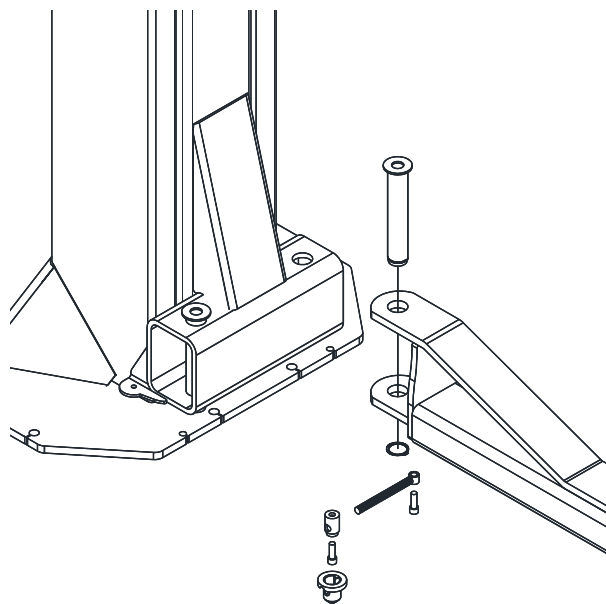

**Fig. 14-Lock Release**
- 25) On the Power Column, attach the 1/8" air line from the lock release air cylinder to the push-lock tee fitting. Run another section of 1/8" air line from the button valve to the tee (Fig. 14).
- 26) Connect the rest of the 1/8" air line to the top of the tee and run it up the column attaching it to the hydraulic line using wire ties (Fig. 14).
- 27) After running the 1/8" air line along the hydraulic line in the overhead and out the other opening in the Idler Column (Fig. 14), run the air line down the column using adhesive tab and wire ties. Attach it to the lock release air cylinder (Fig. 14).